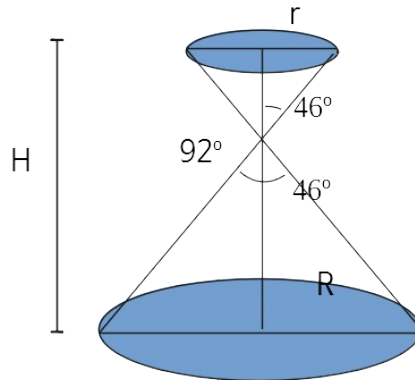

Fig 3: Calculation of max distance from object surface to sensor
1. Set up the circuit as shown in Fig 3. The heated bed get heated just after the 12V power supplied, connecting 12V power last procedure. The height less than